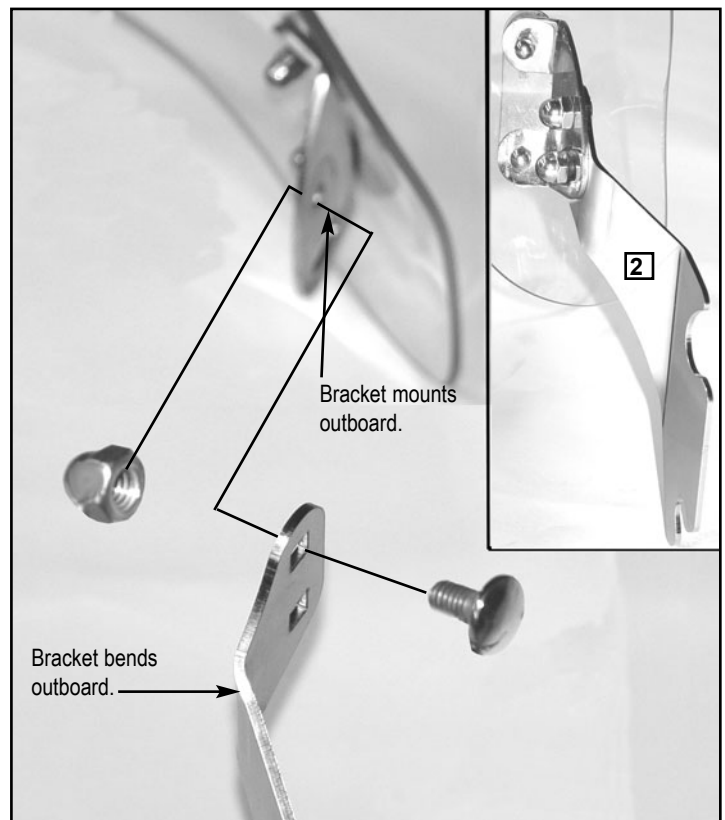

Figure 2. Right Side Bracket Assembly
1. Identify right side Bracket (2).
2. Assemble right Bracket to right side of windshield with Carriage Bolts (3) and Nuts (4). Be certain Bolt neck seats correctly in Bracket. **(9/16 Socket and Wrench) Figure 2.**